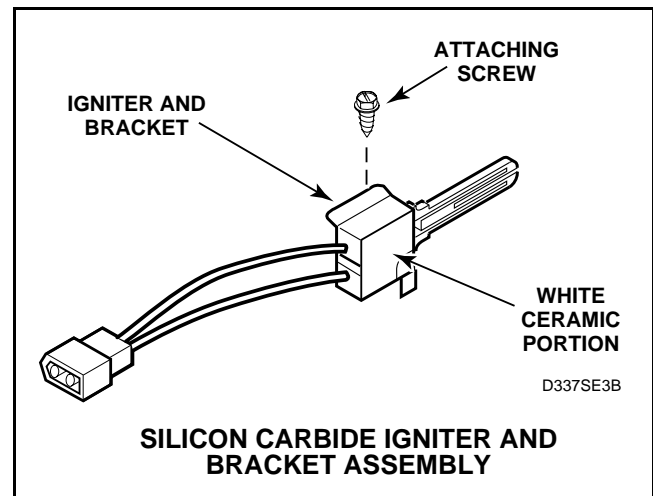

Figure 47
- Silicon Carbide Igniter** – meter should read between 45 – 200 Ohms. See *Figure 47*.